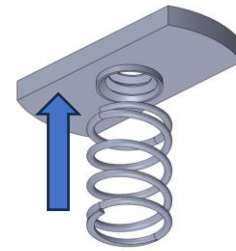
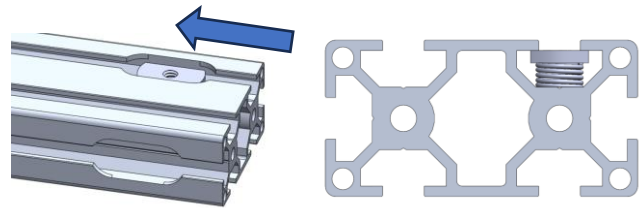

Figure 7: Combining the Spring with the Track Nut
Figure 8: Installing Track Nut & Spring into Crossbar
5. Install spring onto track nut and insert into one of the crossbars as shown in Figure 7 & Figure 8.